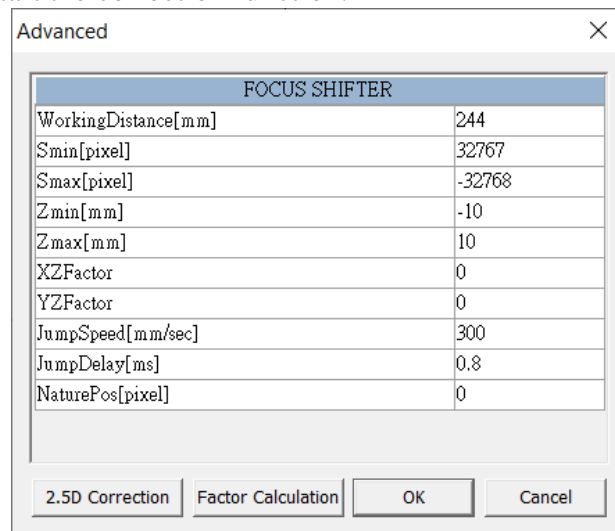

Fig.3.2.13
4. After the "Advanced" dialog box appears, click "2.5D Correction", as shown in Figure 3.2.13, to start the correction function.